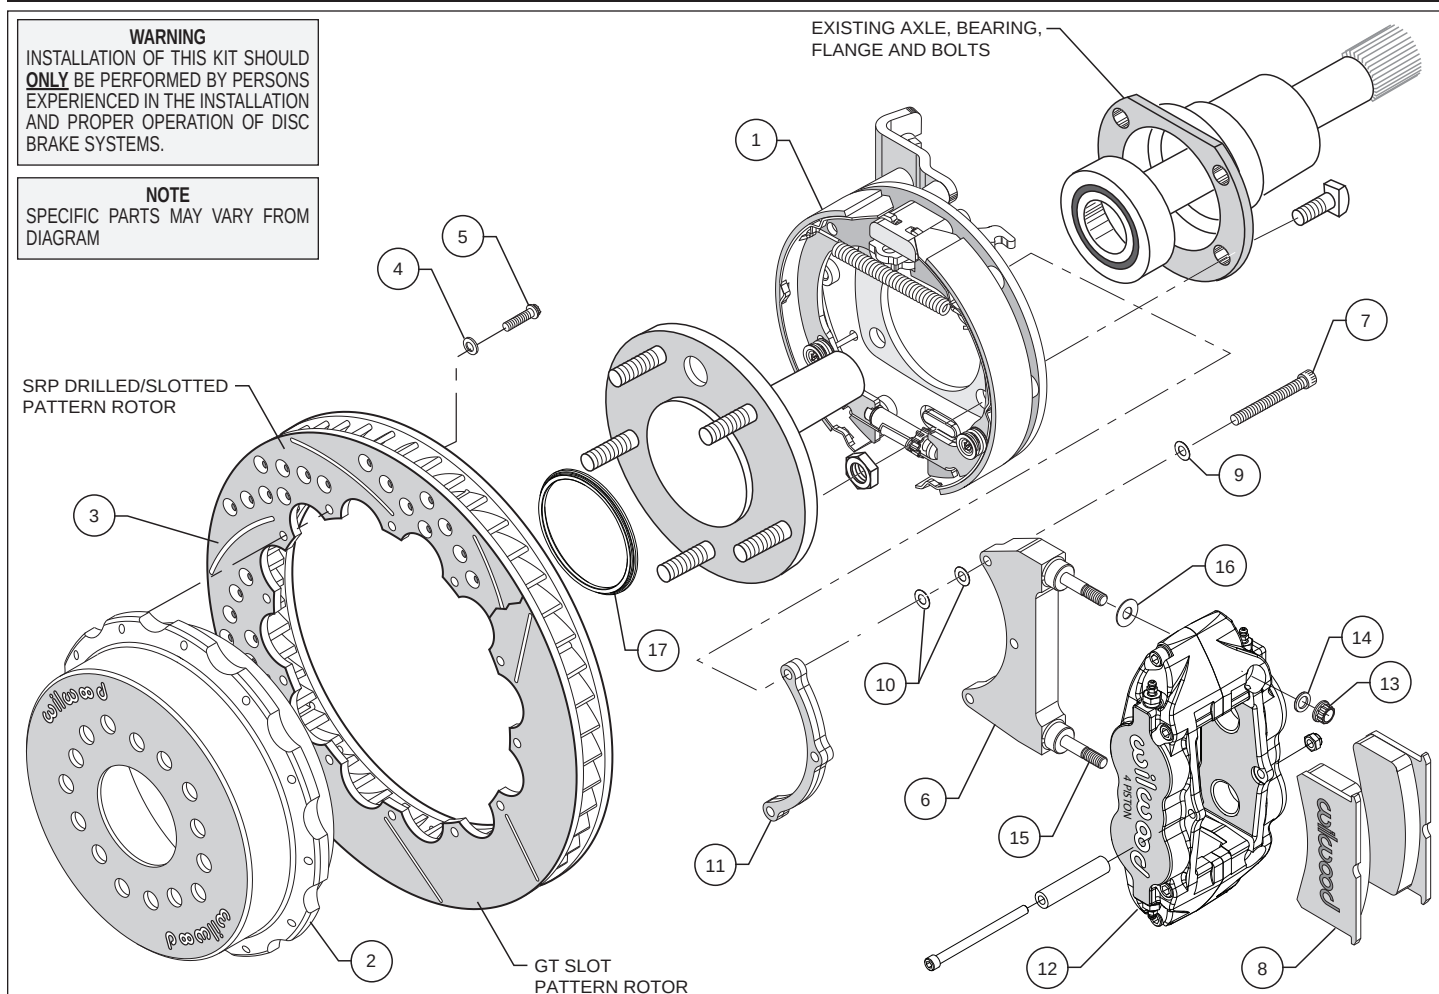
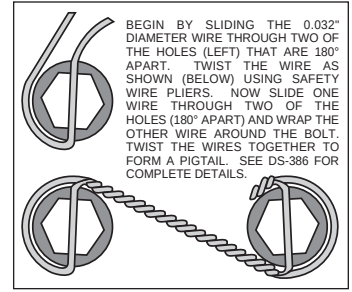

Figure 1. Typical Installation Configuration
Figure 4. Safety Wire Diagram
Assembly Instructions (numbers in parenthesis refer to the parts list and Figure 1 on the preceding pages): **CAUTION:** All mounting bolts must fully engage threaded holes.
- Orient the bracket assembly (1), as shown in Figure 1, and mount to the axle housing flange using the Original Equipment Manufacturer (OEM) bolts and nuts, Figure 1. Ensure that the bracket assembly backing plate fits flush against the axle housing flange. Apply red *Loctite*® 271 to the OEM bolt threads and torque to OEM specifications.
- Orient the rotor (3) and the hat (2) as shown in Figure 1 and Photo 1. Attach rotor to hat using bolts (5) and washers (4). Using an alternating sequence, apply red *Loctite*® 271 to the threads, and torque to 140 in-lbs. For an added measure of security, the bolts may be safety wired using standard 0.032 inch diameter stainless steel safety wire as shown in Figure 4. Please refer to Wilwood's data sheet DS-386 (available at www.wilwood.com/Pdf/DataSheets/ds386.pdf) for complete safety wire installation instructions.
•Slide the rotor registration adapter (17) onto the axle register on the axle flange with the smaller O.D. facing outward, Figure 1 and Photo 2. Align the correct hole pattern in the rotor/hat (2/3) with the stud pattern on the axle flange and slide into place, Figure 1. **NOTE:** The hat must fit flush against the axle flange or excessive rotor run out may result. Install three lug nuts (finger tight) to keep the rotor/hat assembly in place while continuing with the installation. **NOTE:** Some OEM and after market axles come with stud sizes larger than 0.50" diameter. Verify stud size and have a qualified machine shop drill the bolt circle of the hat/rotor to the correct stud size, if necessary.
•**NOTE:** Please reference the caution statement at the beginning of the assembly instructions. The caliper mount bracket assembly (6) should initially be installed with clean, dry threads on the mounting bolts. Orient the bracket as shown in Figure 1 and Photo 3. Attach the bracket using bolts (7), flat washers (9), and spacer (11), Figure 1 and Photo 3. **NOTE:** End of bolt should not exceed inside face of insert. The bracket must tighten squarely against the back side of the bracket kit assembly. Inspect for interference from the axle flange. Initially place two .015" thick shims (10) on each bolt between the bracket (6) and the spacer (11), Figure 1.
•Lubricate the caliper mounting studs (15) with lightweight oil. Initially place one .035" thick shim (16) on each stud between the caliper and the bracket, as shown in Figure 1 and Photo 4. Mount the caliper (12) onto the bracket (6) using lock nuts (13) and washers (14), Figure 1. Temporarily tighten the lock nuts and view the rotor through the top opening of the caliper. The rotor should be centered in the caliper, Photo 5. If not, adjust by adding or subtracting shims (10) between the bracket and the spacer (11). Always use the same amount of shims on each of the three mounting bolts. Once the caliper alignment is correct, remove the bracket mounting bolts one at a time, apply red Loctite® 271 to the threads, and torque to 180 in-lb.